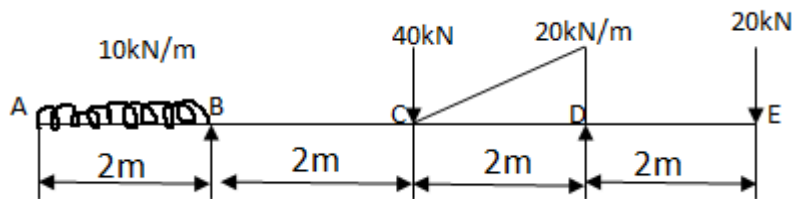

Fig. Q 5(b)
b. Draw the shear force and bending moment diagram for the overhanging beam shown in the Fig. Q 5(b) and locate the point of contra flexure. 16